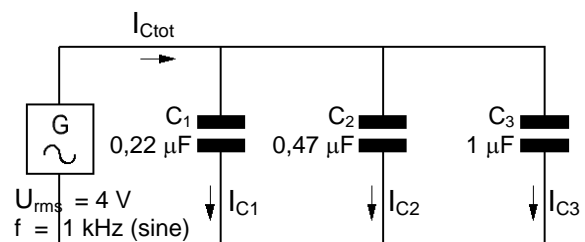

Fig. 13.6.2.1: Measurements on a parallel circuit of capacitors
- Assemble the circuit in Fig. 13.6.2.1 on the Electronic Circuits Board.